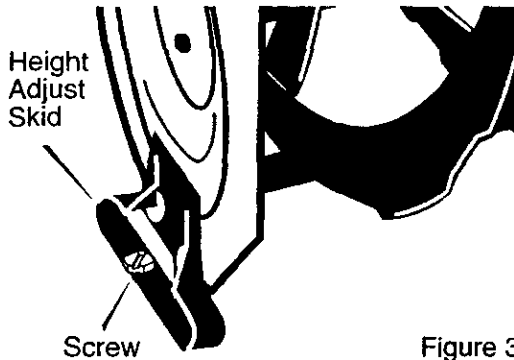

Figure 3
6. For shipping purposes, the **height adjust skids** are attached to the pallet. Remove the **screw** that secures each **height adjust skid** to the pallet. See Figure 3.